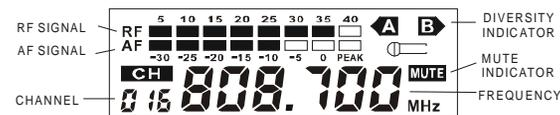

Fig.30 Screen of receiver 8242
4.9.4 Adjust the volume of the receiver and amplifier to "MIN" and turn on the receiver, the LCD screen of the receiver will light on and display as Fig.30: